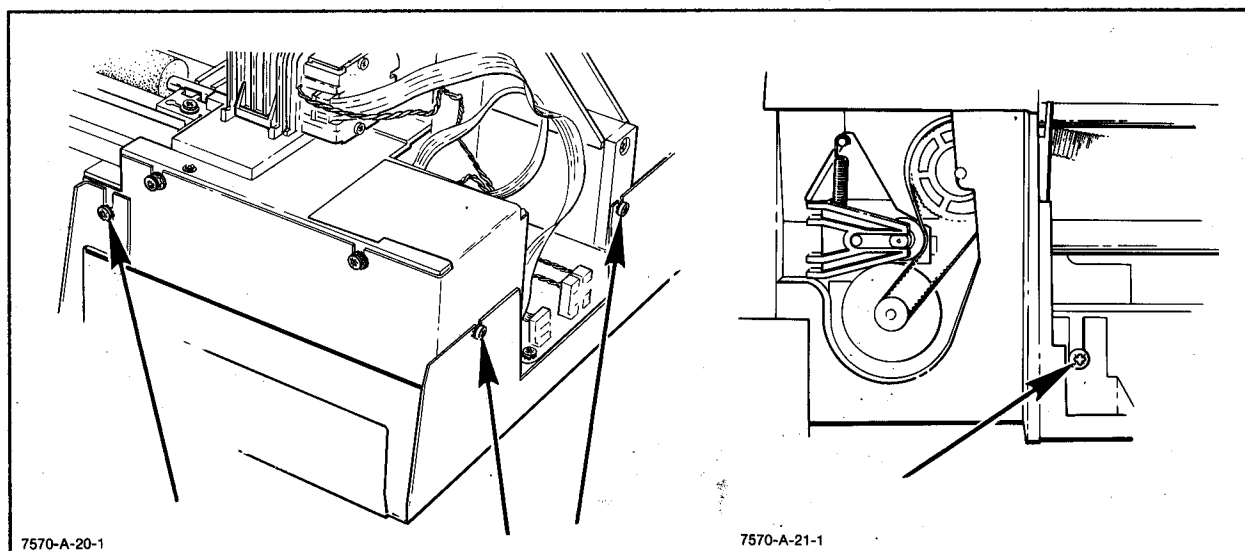

Figure 6-14. Right Base Removal
e. Loosen the four machine screws holding the base to the plotter. See Figure 6-14.